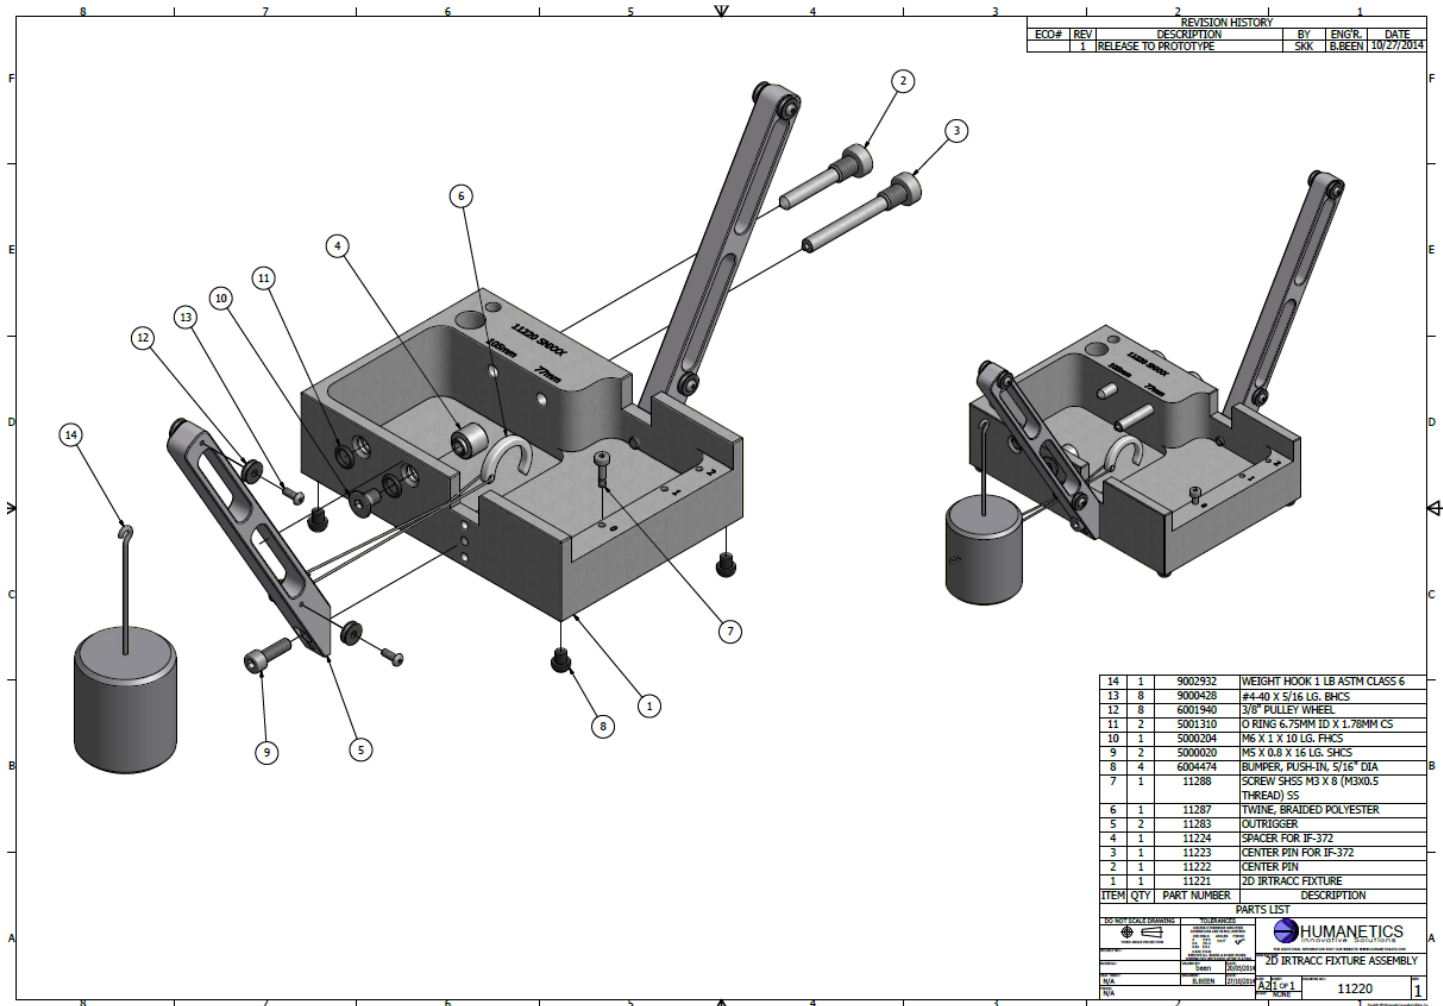

Figure 1 Reference Fixture part #11220
- Reference Fixture part #11220 (Figure 1);